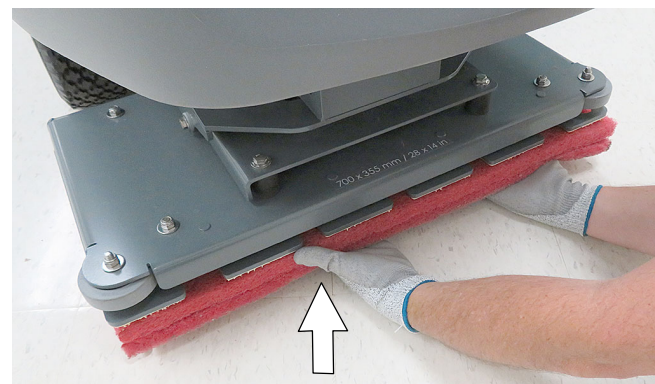

FIG. 17
- Attach the two pads to the bottom of the scrub head (Figure 17). Make sure pad is centered on scrub head.